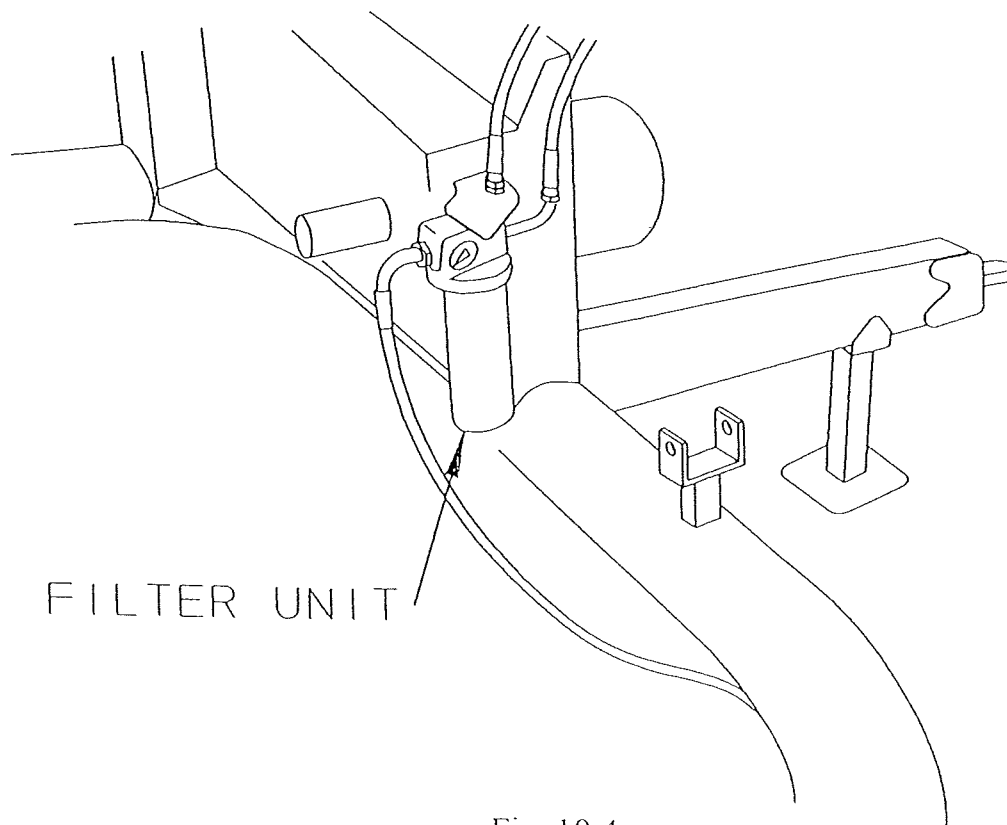

Fig 10.4
6. Replace the hydraulic filter element in the pressure line between tractor and machine valve bank. Use only genuine Richard Pearson Ltd. Replacement elements (Fig 10.4)